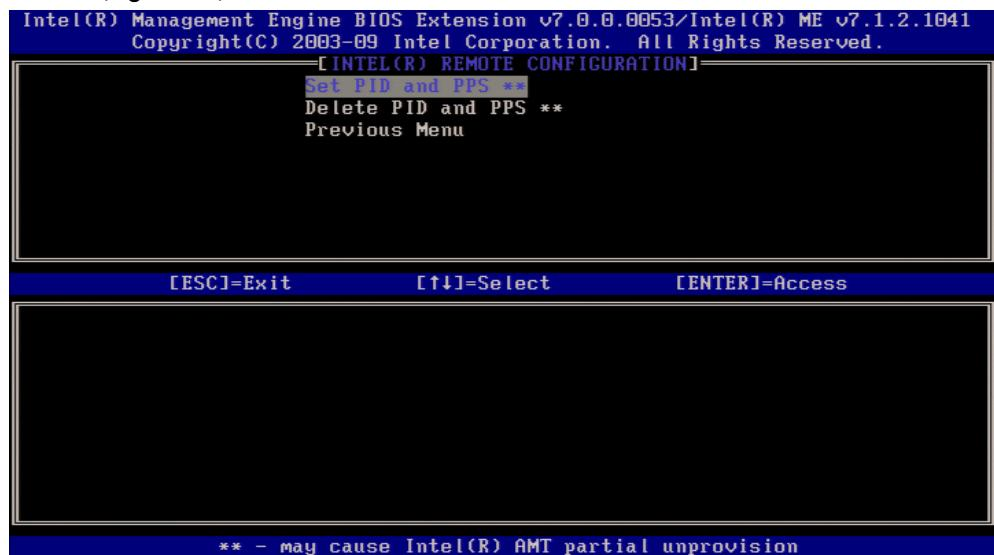

Figure 27. Intel TLS PSK Configuration Screen
f. Select **TLS PSK**. The Intel TLS PSK Configuration Screen appears (Figure 27).